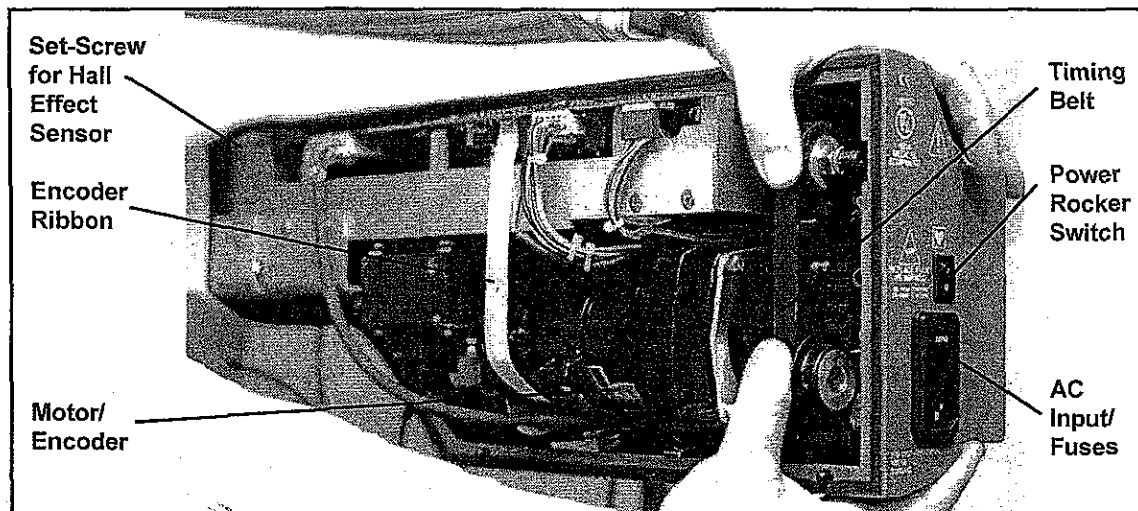

Figure 4-1d: Adjusting the Timing Belt
2. Ensure that the Anti-Rotation Bracket is positioned in front of the Encoder Ribbon Connector. If necessary, keep pushing down on the timing belt in the rear of the unit. This will cause the Ball-Screw Assembly to move forward (see Figure 4-1d).